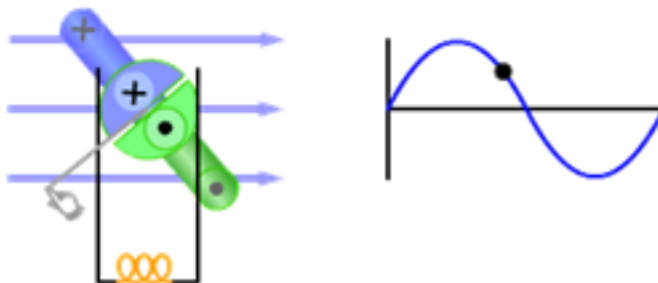
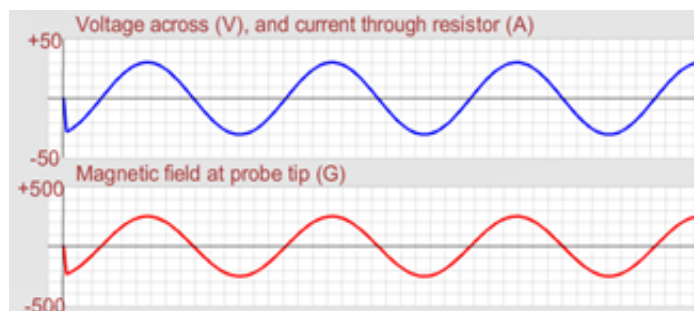
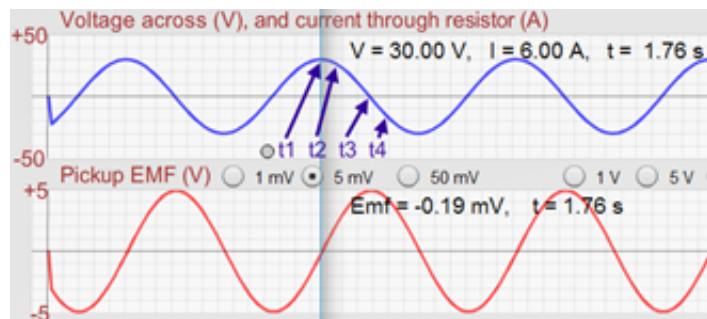

Figure 13: AC Generator
Figure 14: Effect of Current Function on Magnetic Field: Sine Function
Figure 16: Sinusoidal Current and Resulting Sinusoidal Emf
The voltage/current graph shows the sinusoidal variation in the current as shown in the top graph in Figure 14. This sinusoidal current was created by the electronics of the function generator. Normal household current varies in the same way as a natural result of using a spinning generator to produce AC current. That spinning causes the effective area of the coil to vary sinusoidally. Figure 13 is an edge-on view of a coil rotating around an axis normal to the page.
Since $B_{\text{sol}} = \mu_0 n I$, the corresponding magnetic field graph has a similar shape and is in sync with the current graph. Think about it. If I is varying sinusoidally, $\mu_0 n I$ will, too. That's what you see in the lower graph in Figure 14.
You should get a pair of graphs similar to the ones in Figure 16. At first glance, this pair of graphs looks a lot like the previous sine function pair (Figure 14).
The bottom graph is a plot of the magnetic field, B vs. t in Figure 14 and emf vs. t in Figure 16.
Let's look at this in detail to see how the middle graph dictates the shift of the bottom graph. In Figure 16, the Graph Tool has been dragged to a voltage/current maximum. Note that this tool serves another purpose in this situation—to match up points created at a selected instant on each graph. Let's use this to see the meaning of the graph offset.
- 7 Drag your Graph Tool to the middle of a voltage peak as shown in Figure 16.
- b Move to $t_2 = t_1 + 0.1$ s. Record t_2 , and I_2 . (Not $+0.01$, which isn't possible. It would be 1.86 s in Figure 16.)
Our **sinusoidal current graph** in Figure 16 had a **slope of zero at t_1** and **gradually increased in (negative) slope**, reaching a maximum slope when it crossed the time axis at t_3 and then began to decrease in negative slope. Thus the emf had the constantly varying value illustrated in the lower graph.